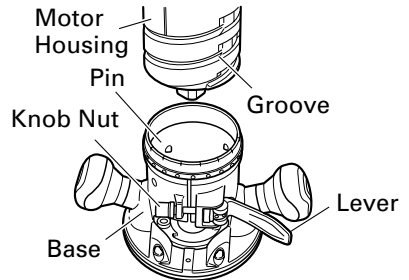

Fig. 1
1. Removing the fixed base (Fig. 1)